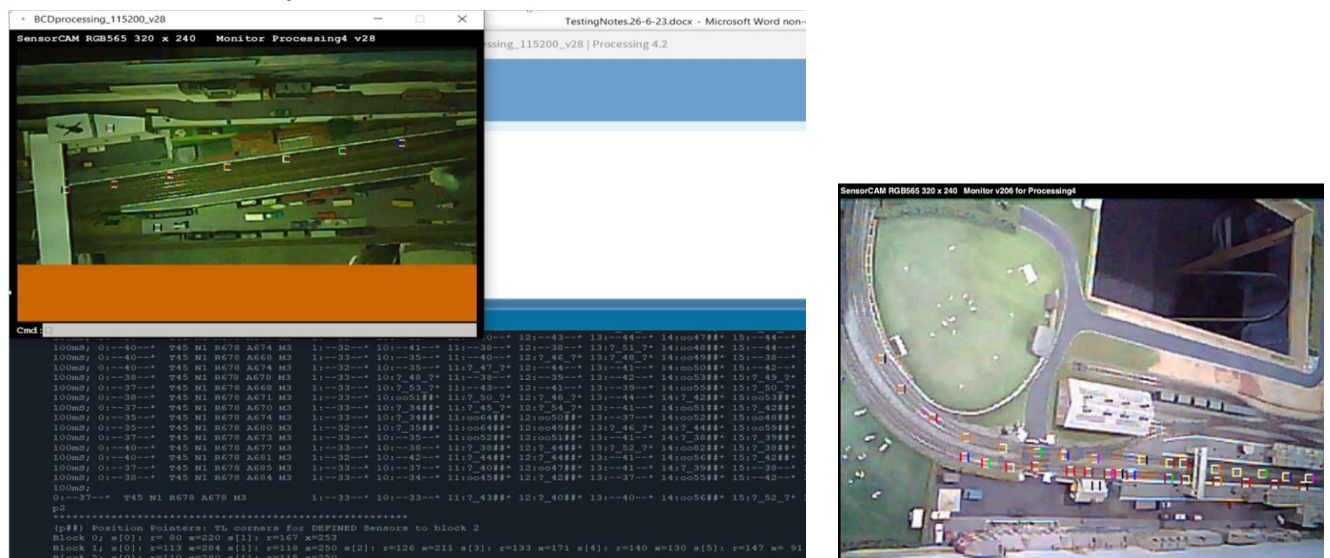

Figure 5 Processing 4 Console and image window
With regards lighting, fluorescent or LED lighting normally flickers at twice mains frequency so it pulses at 100 or 120Hz. This is normally tolerable, but it can be seen in a sensorCAM image on a uniformly white test panel as below (Figure 5). In 100mSec there could be up to 10 bands in one image. SensorCAM tries to synchronise with the mains frequency, but if it fails the faint bands will drift across the sensors and potentially trip them in the worst case scenario. Set the threshold high enough to avoid such trips. Figure 4 shows an example of bad 100Hz banding.
5.1 The first step is to decide a sensor distribution strategy & numbering system. A sensorCAM has 10 banks (0-9) of eight (0-7) individual sensors available (total 80). Each bank can be tested as a whole to see if ANY sensors tripped or NO sensors tripped. Also placing a string of sensors in a row, for example along a platform, can indicate train position with the binary bank value increasing as the train approaches a signal as it crosses sensors 0 through 7. (see **Figure 5** for examples) Sensors are generally referred to with a two digit bank/sensor designation (their bsNo.) e.g Sensor 68 and 69 are therefore invalid bs numbers, 97 is valid. Use one bank for a platform (set of 8 sensors). Sensor S00 is reserved as a brightness reference sensor. Sensor S06 is also RESERVED for now. It is suggested that user's Sensors start with bank 1, i.e. S10 (vPin ..8), S11 upwards, with related sensors in their own bank. They do not need to be sequential (**Follow the installation Guide for full details**). **With the recommended definitions set up, the use does not need to remember or refer to vPins for sensorCAM sensors.**
Test image with Fluorescent or LED lighting – note three faint dull stripes across white test panel in **Figure 5** below. Strong banding is also evident in **Figure 4**. Horizontal stripe position varies frame-to-frame as not effectively synchronized with mains yet. (**Figure 5** image was obtained using **V**, **H** & **Y60** Processing4 commands)
The sensorCAM Processing 4 monitor accepts commands W, X, Y & Z which allow one to nominate a “strip” or subsection to image. e.g. Z80_ X240_ Y_ will update the last quarter image (columns 240-319) of the 240x320 pixels in 4 seconds. This method enables, for example, comparison of quarter images under different lighting conditions by using different X values. . Similarly W60_ Y120_ will produce a quarter image from row 120. Each part image is pasted over previous images. Each new image appears more quickly if only a subsection is specified this way. The ***next*** image can be flipped Vertically (y) and Horizontally(x) by using V &/or H *before* capture. The **Figure 5** image used V_ H_ Y60_. The values for V, H, W, X & Z are remembered for subsequent ‘Yrrr’ commands so need not be repeated. **NOTE: Do not flip (H or V) before creating new sensors as cursor coordinates do NOT flip.**